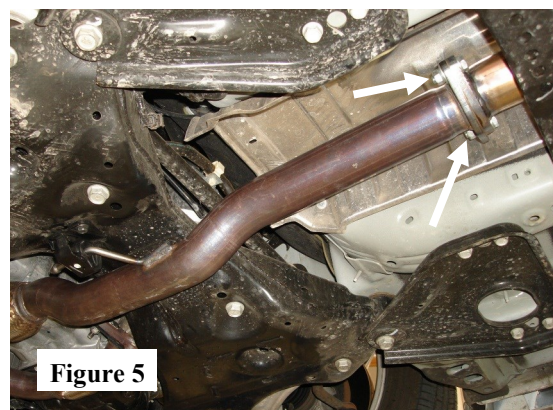

Figure 5
1. Using factory hardware and gaskets, attach **Front Muffler Assembly** to flange. Insert hangers into rubber isolators. Do not tighten bolts. (See Fig. 5)